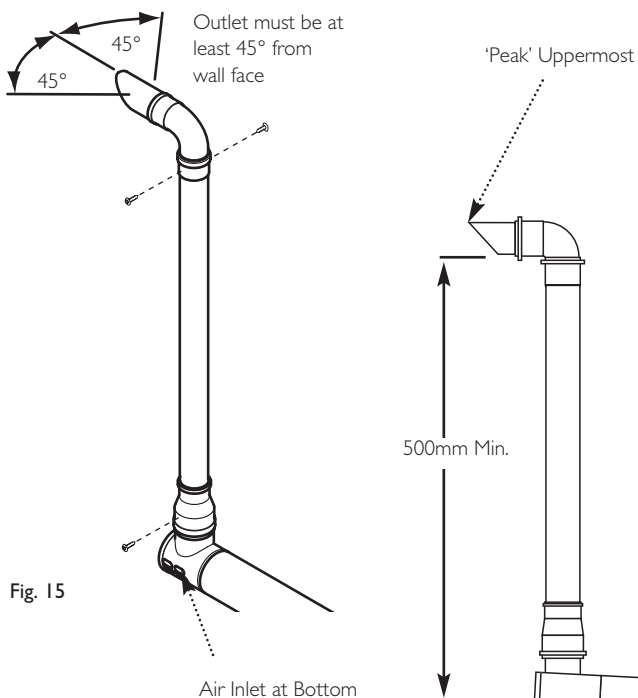
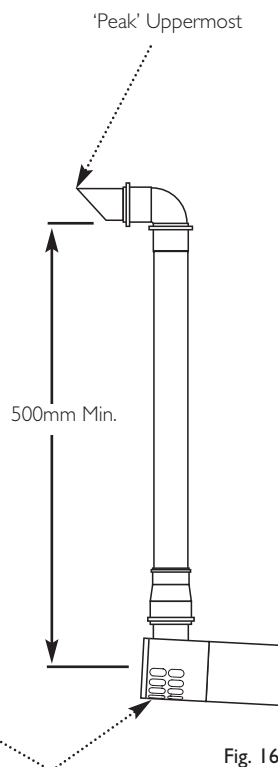

Fig. 15
Fig. 16
3. The plume outlet must always be at least 45° to the wall, with the 'peak' uppermost to prevent rain entry (Figs. 15 & 16), and be at least 2 metres above ground level. It must be secured as shown in Fig. 10. The plume outlet must also be at least 500mm from the air inlet in any direction (Fig. 16).